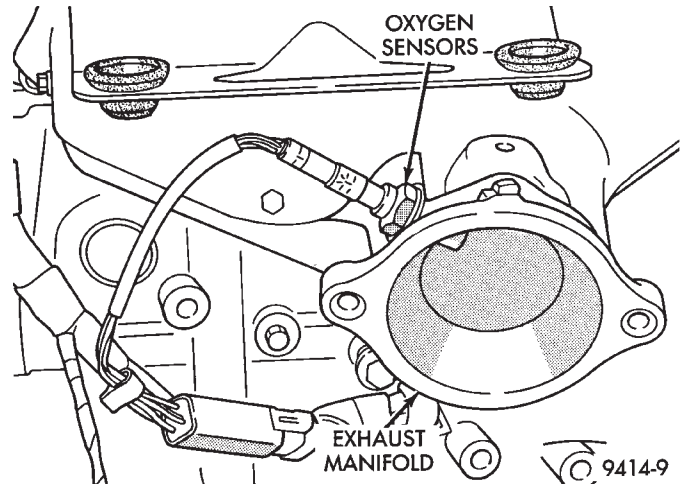
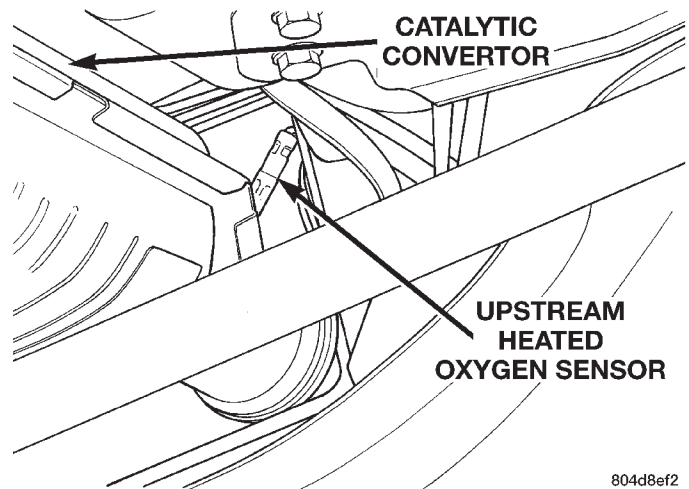
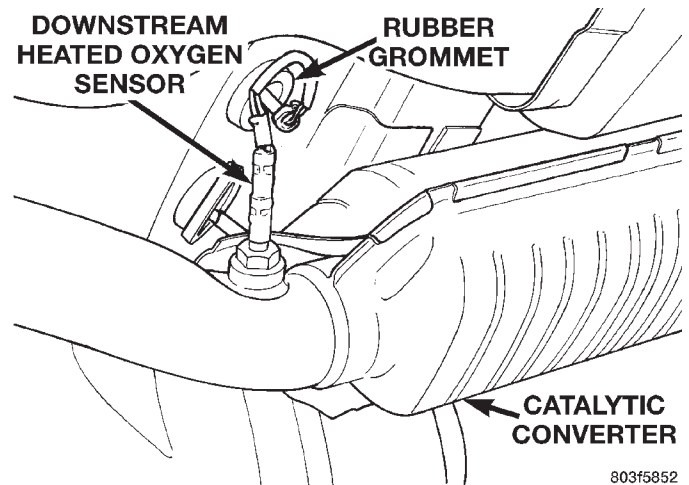

Fig. 54 Upstream Heated Oxygen Sensor—2.4L Engines
Fig. 55 Upstream Heated Oxygen Sensor—2.5L Engine
Fig. 56 Rear Heated Oxygen Sensor
(21) On vehicles with automatic transaxles, check the electrical connections at the Transmission Range Sensor (TRS).
(22) Inspect the electrical connections at the upstream and downstream heated oxygen sensors (Fig. 54), or (Fig. 55), and (Fig. 56).